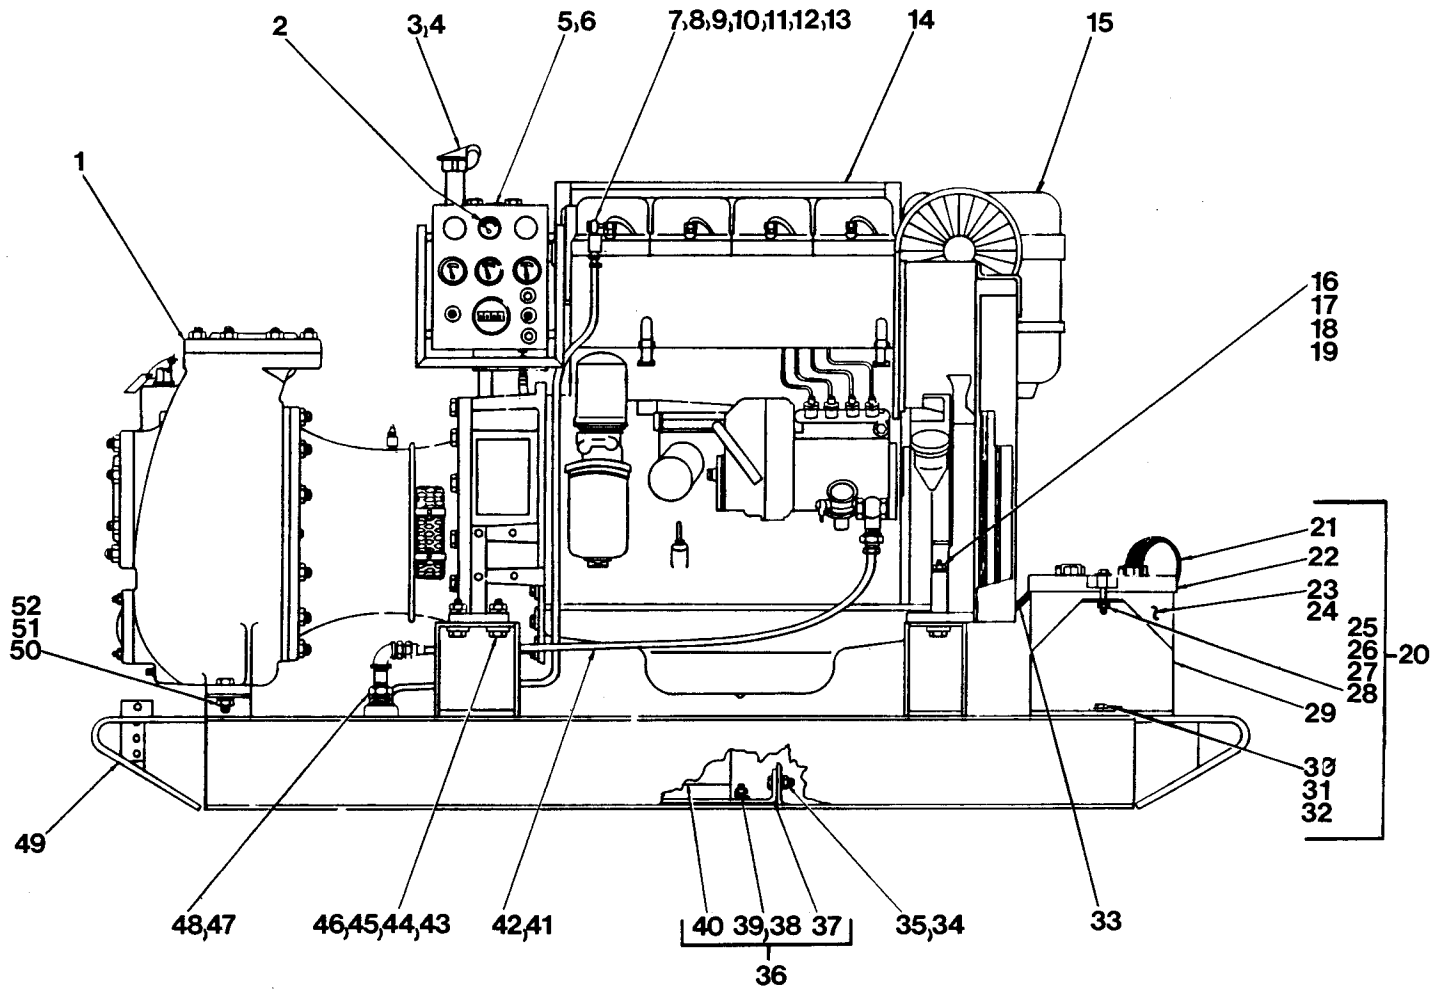

Figure 1. Pump Model 04B3-F4L
This pump requires little service due to its rugged, minimum-maintenance design. However, if it becomes necessary to inspect or replace the wearing parts, follow these instructions, which are keyed to the sectional views (see Figures 1 and 2) and the accompanying parts lists.
Remove the suction and discharge lines. Remove the hardware (50, 51 and 52, Figure 1) securing the casing to the base. Remove the nuts (30), and use a suitable hoist and sling to separate the pump casing and gasket (32) from the seal plate (31) and intermediate (27).